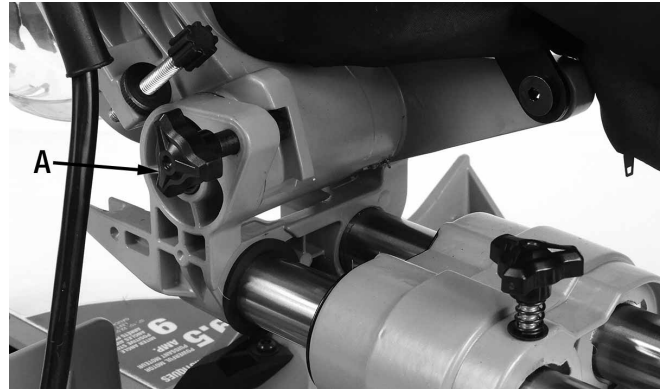

FIGURE 3
4. The saw has been shipped with the saw arm locked in the down position. To release the saw arm, push down on the top of the saw arm, pull the saw head release knob (A) Fig.3.